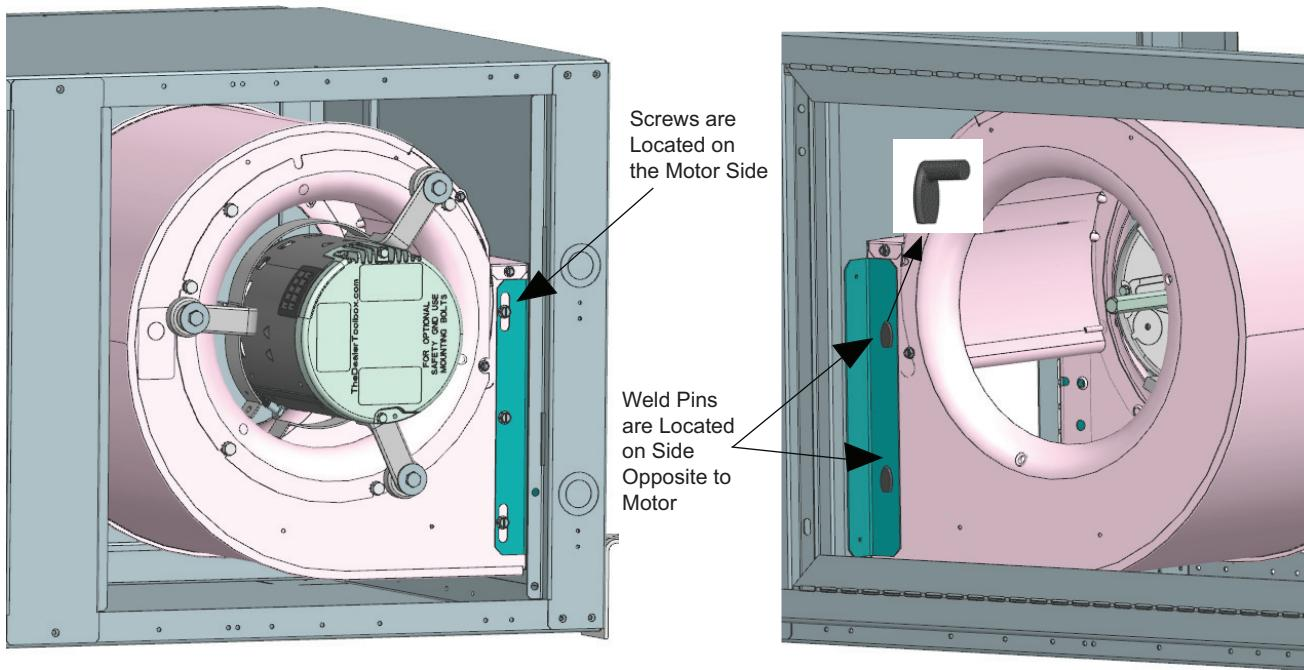

Fig. 42 — Horizontal Units Blower Assembly
3. Remove the three screws located on the motor side of the blower assembly. See Fig. 42.
4. Twist and pull blower back from welded pins located on opposite side to the motor, near the evaporator. See Fig. 42.